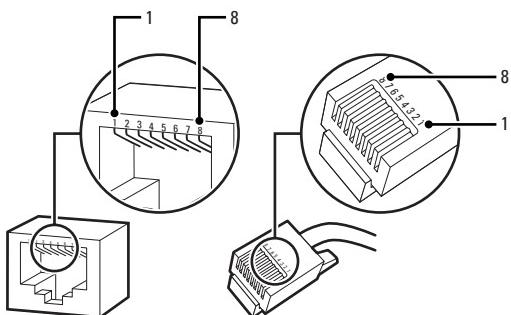

Figure 3. Pin Descriptions
3. Plug the network cable into the RJ-45 connector located at the back of the camera (refer to Figure 3).